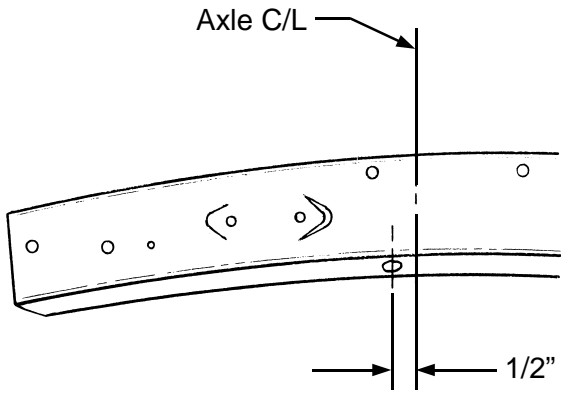

Figure 1
4. Note that on the underside of the frame rails are the rubber axle snubbers (or the holes for them) above the axle. Using the center of those holes, measure back 1/2" and scribe a line around the rails. See Figure 1. This will be the axle center line. Please note that some later Fords actually had the axle centerline back up to 1" from the snubbers. The wheelbase should be 112". As a final check, just to be safe, you could temporarily place a fender on the frame and stand a wheel in place in the opening, centering the wheel in the fender opening. Slide a bar or broom handle through the wheel center hole. It should fall on your correct axle centerline. If the crossmember is installed in the wrong place now, it can not be compensated for later. **REMEMBER THE BASIC RULE - MEASURE TWICE. WELD ONCE.**